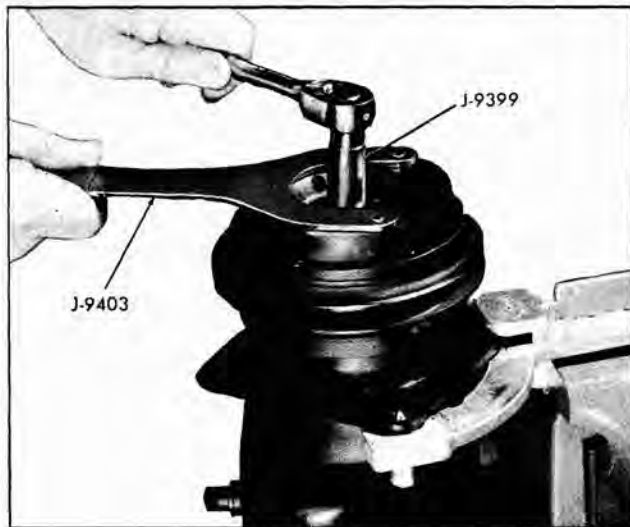

Fig. 5-49 Removing Hub and Drive Plate Lock Nut
1. Hold the clutch hub with J-9403 wrench and using J-9399 (special thin wall  $\frac{9}{16}$ " socket) remove hub and drive plate assembly lock nut from shaft (Fig. 5-49).